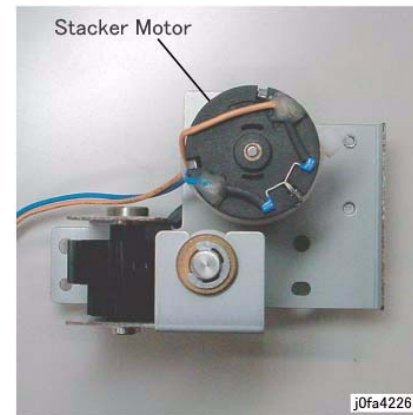

Figure 5 Installing the Stacker Motor (j0fa42265)
2. Install the Stacker Motor as shown in the figure. (Figure 5)